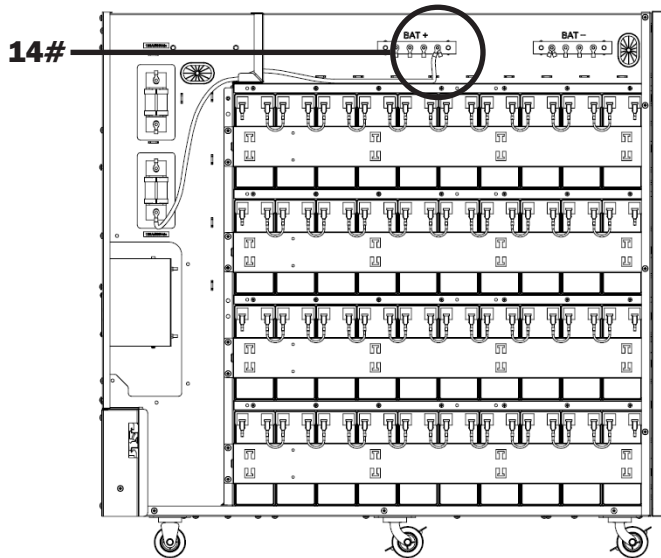

Figure 5-23
35. Connect + battery bus bar to the fuse (Figure 5-23).